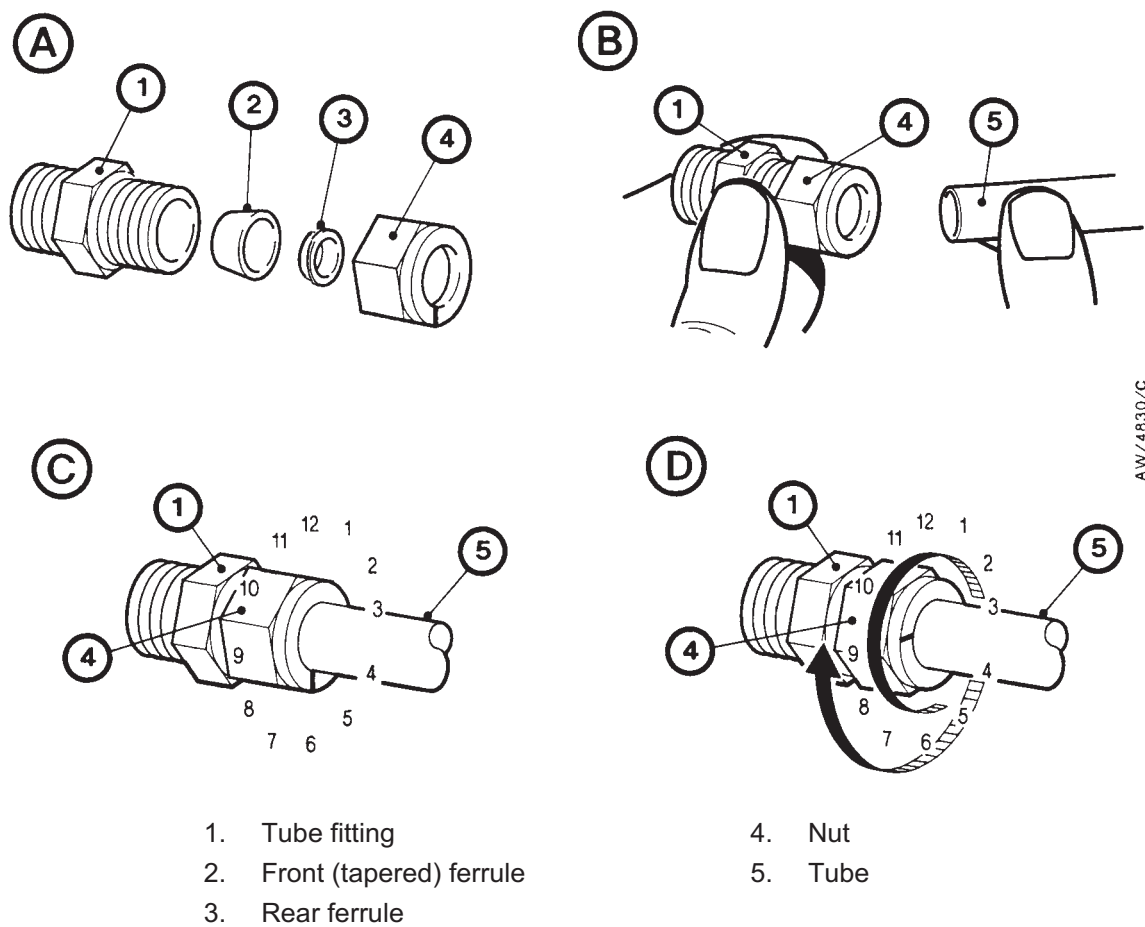

Figure 6-1 - Fit a tube fitting
1. Refer to Figure 6-1 detail A. Undo and remove the nut (4) from the tube fitting (1). Ensure that the front (tapered) ferrule (2) and the rear ferrule (3) are correctly orientated as shown in detail A, then loosely refit the nut (4) to the tube fitting (1).
2. Refer to detail B. Insert the tube (5) through the nut (4) and into the tube fitting (1). Ensure that the tube rests firmly on the shoulder inside the fitting, and that the nut (4) is finger tight.
3. Tighten the nut (4) until you cannot rotate the tube (5). If you cannot turn the tube because of how it is installed, tighten the nut by  $\frac{1}{8}$ th of a turn.
4. Refer to detail C. Mark the nut (4) at the six o'clock position.
5. Refer to detail D. Hold the body of the connector steady, then turn the nut (4) by  $1\frac{1}{4}$  turns (to the nine o'clock position) to fully tighten the connection.